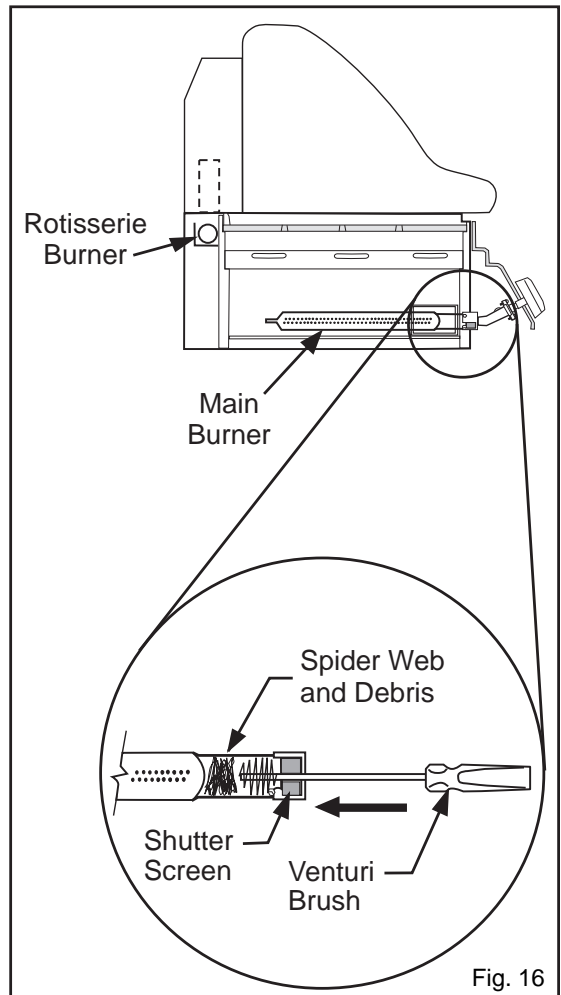

Fig. 16
**WARNING :** Always inspect the air shutter screen periodically to confirm that it is clear of food residue, spider webs or other insect debris. A clogged venturi tube can cause a fire to occur beneath the Grill, due to a flashback of gas (see Fig. 16).
Loosen the burner attachment screws (from inside) to allow the burners to be pulled away from the valves far enough for a venturi brush or suitable cleaning device to be inserted into the burner venturi to clean away debris (see Fig. 16). Be careful not to damage the electrode ceramics.